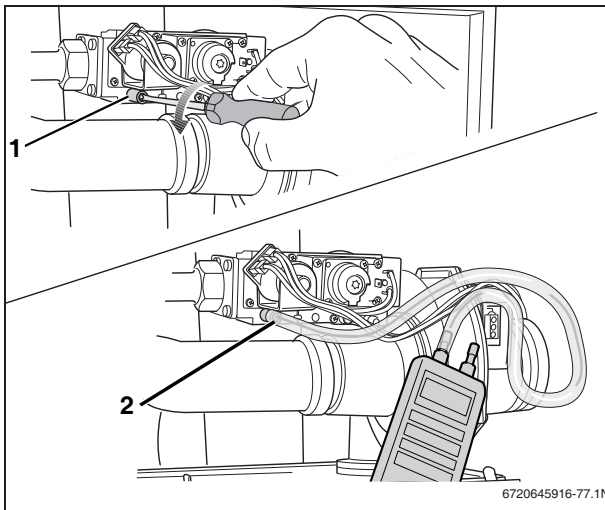

Fig. 76 Checking the gas fitting for internal tightness
- Open the screw plug on the testing nipple for the gas connection by 2 turns.(fig. 76, [1])
- Connect the pressure gauge tube to the testing nipple (fig. 76, [2]). The pressure drop allowed after 1 minute is max. 3.8" W.C. (10 mbar).